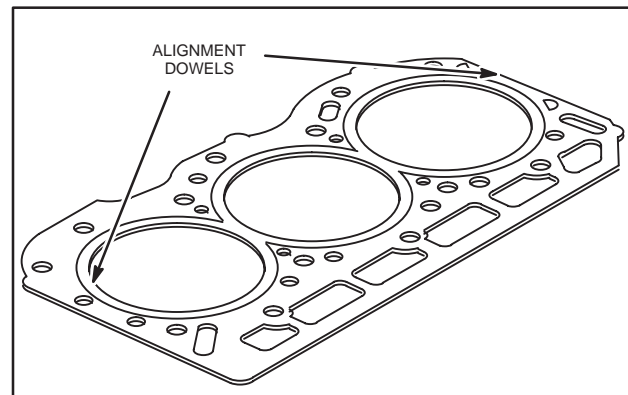

Fig. 29 – Install Cylinder Head Gasket
1. Place cylinder head gasket over alignment dowels on cylinder block, Fig. 29.